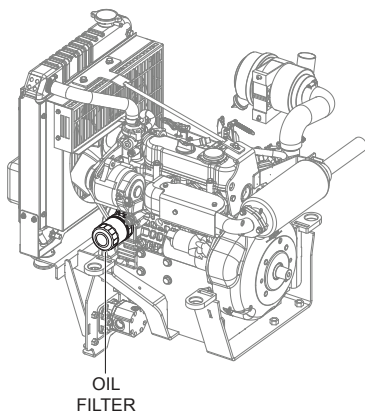

Figure 30. Oil Filter
1. Replace the engine oil filter (Figure 30) every other oil change or every 200 hours of operation. Refer to the engine manual for specific details on how to perform this operation.